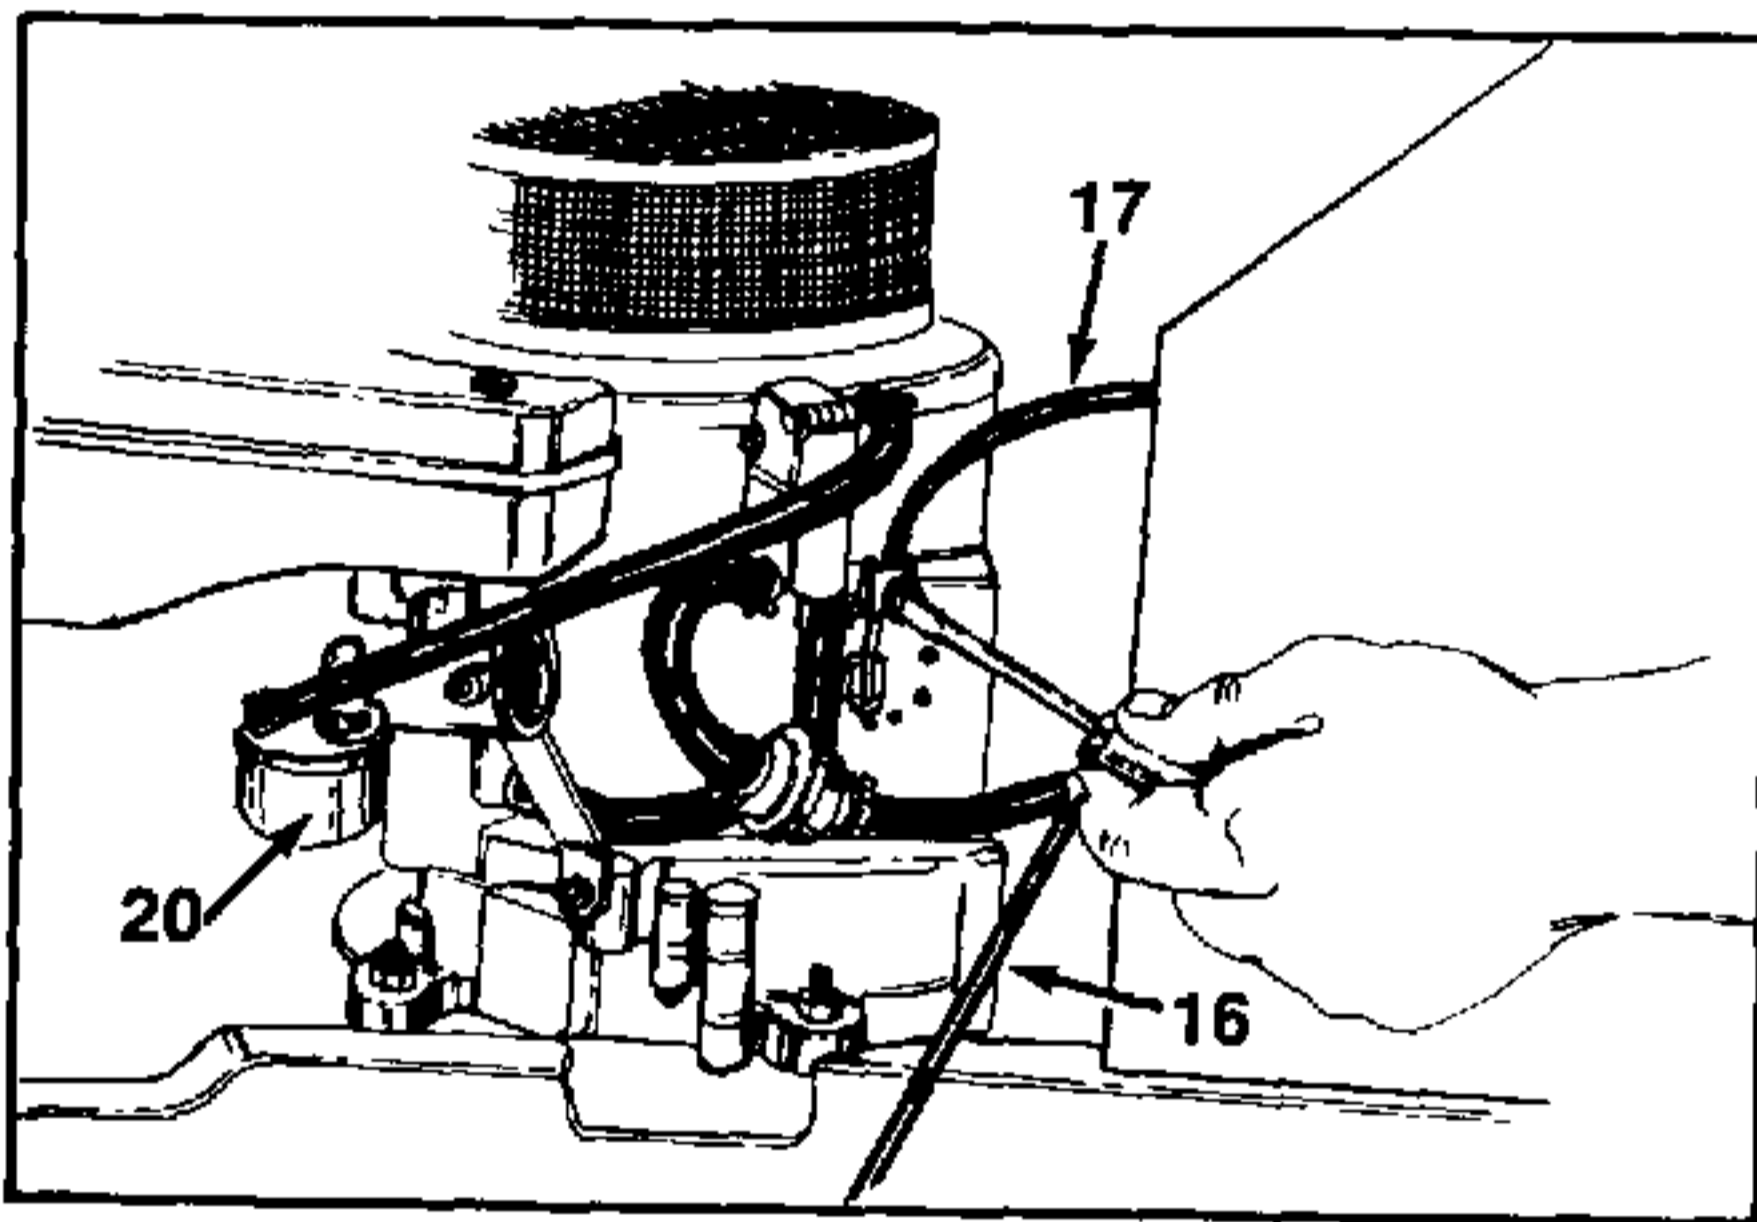

FIGURE 8.
7. Disconnect the throttle control cable (Ref. 17) from the left hand side of engine. See figure 8.